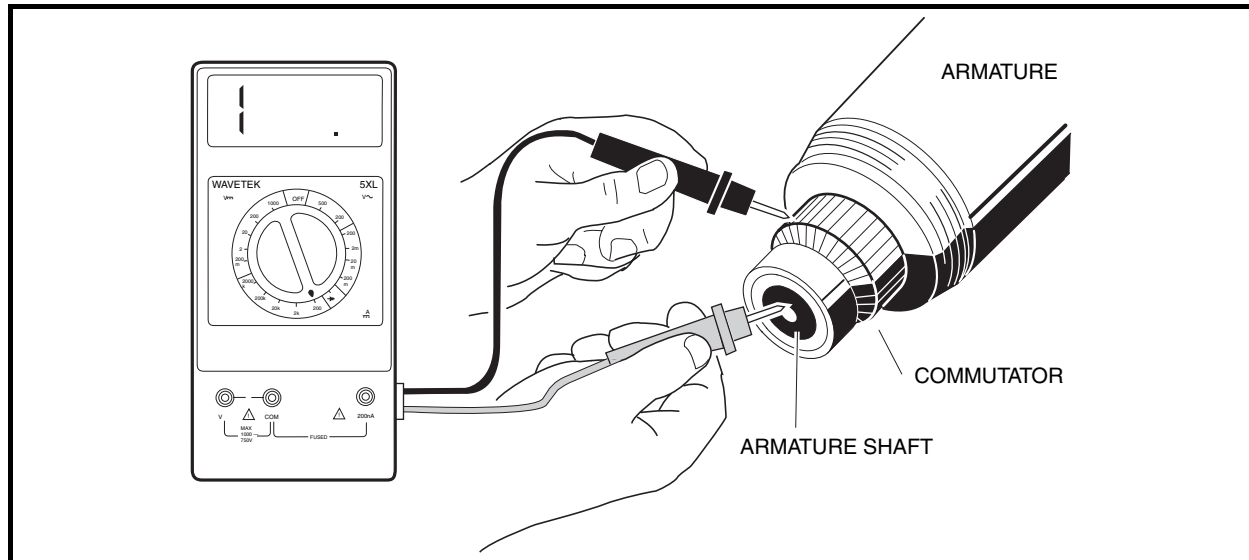

Figure 12-12 Armature Ground Test
1. Use a multimeter set on 200 ohms and place the positive (+) probe on the commutator bars and the negative (-) probe on the armature core. The reading should be no continuity. If the reading is incorrect, replace the armature and the two bearings (**Figure 12-12, Page 12-8**).